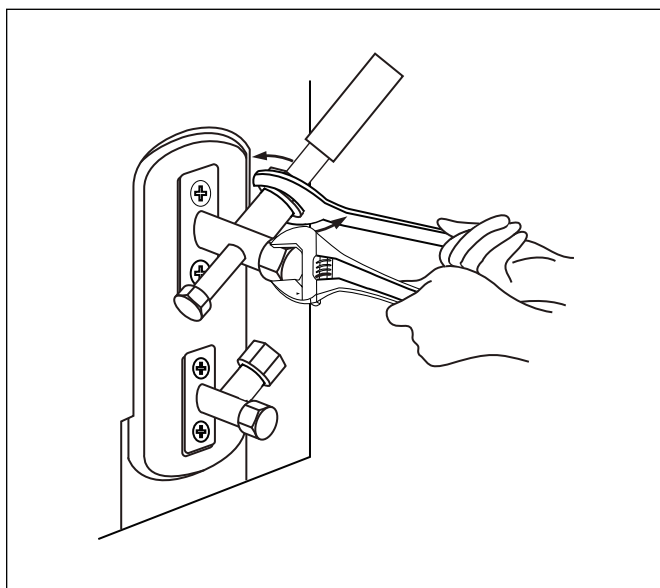

Figure 35
4. Using a wrench, hold the body of the valve. Do not hold the nut that seals the service valve. See Figure 35.